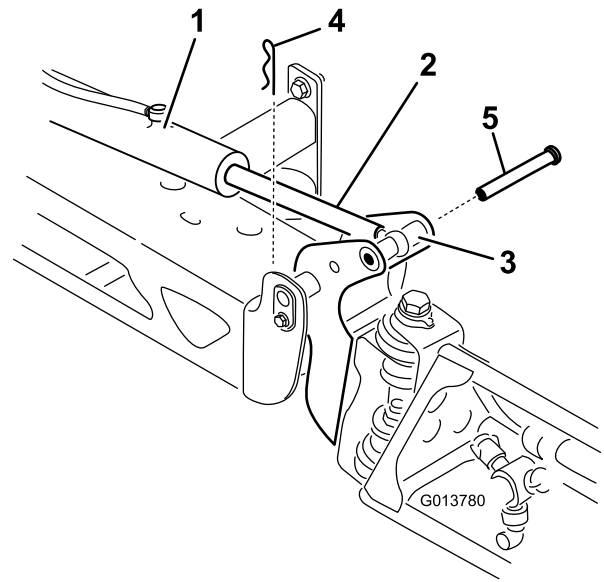

Figure 62
2. Remove the hairpin from the clevis pin (Figure 62).
3. Lift up on the section, remove the clevis pin, and slowly lower the section to the ground (Figure 62).
7. While supporting the spray section, insert the clevis pin through both boom pivot and actuator rod (Figure 62).